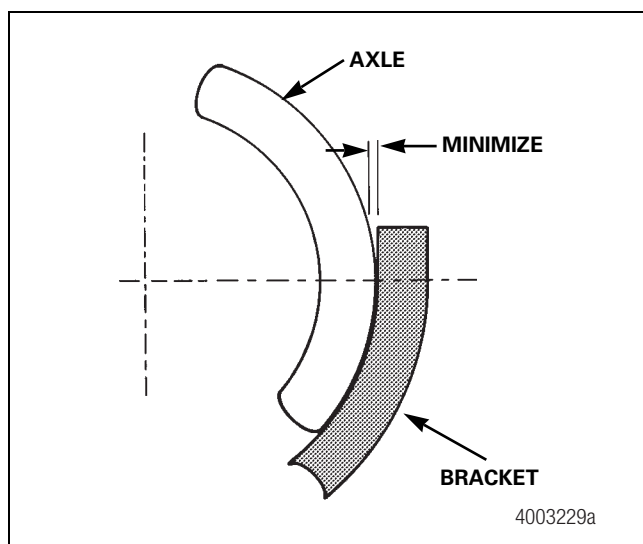

Figure 7.1
- Hardware at the weld site should fit as close as possible to the axle. This will prevent the necessity for excessive welding. Figure 7.1.